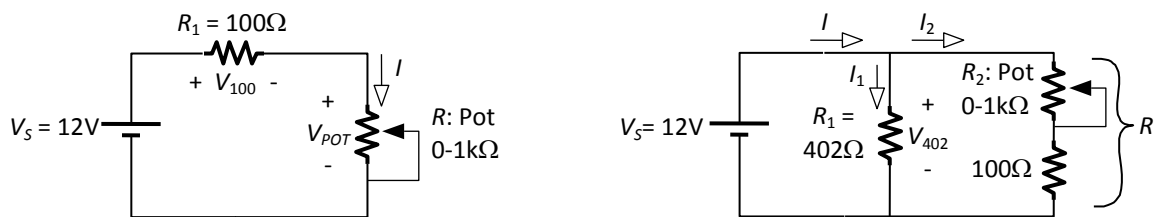

Figure 4: Series circuit and parallel circuit to be analyzed and constructed.
1. For the series circuit shown in Figure 4 compute R , V_{100} and V_{POT} when $V_S = 12\text{ V}$ and $I = 40\text{ mA}$. Enter the computed values into Table 3.
3. Connect the *series circuit* shown in Figure 4. Adjust R until $I = 40\text{ mA}$. Record the measured values in Table 3 for I , V_S , V_{100} and V_{POT} and compare with the computed values.
4. Connect the *parallel circuit* shown in Figure 4. Adjust R_2 until $I = 50\text{ mA}$. Record the measured values in Table 4 for I , V_S , I_1 and I_2 and compare with the computed values.